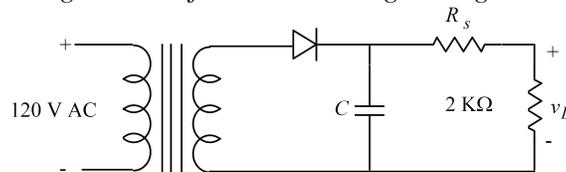

Figure 9 – Half-Wave Rectifier with Voltage Divider
6. Say you are required to build a DC power supply with an approximate DC output level of 9.1 V, at a load of 2 k Ω . The current setup obviously has a V_{avg} of more than 9.1 V. The excess voltage can be removed using a simple voltage divider circuit. Calculate the value of the resistor R_s (you might have to use a collection of resistors in series) as shown in **Figure 9** required to obtain a 9.1 V output with a 2-k Ω load and add it to your circuit. Measure, save, and record the waveform for $v_L(t)$.
8. Add a 9-V zener diode in parallel with the 2-k Ω load resistance in Figure 9 and repeat the measurements in step 7.